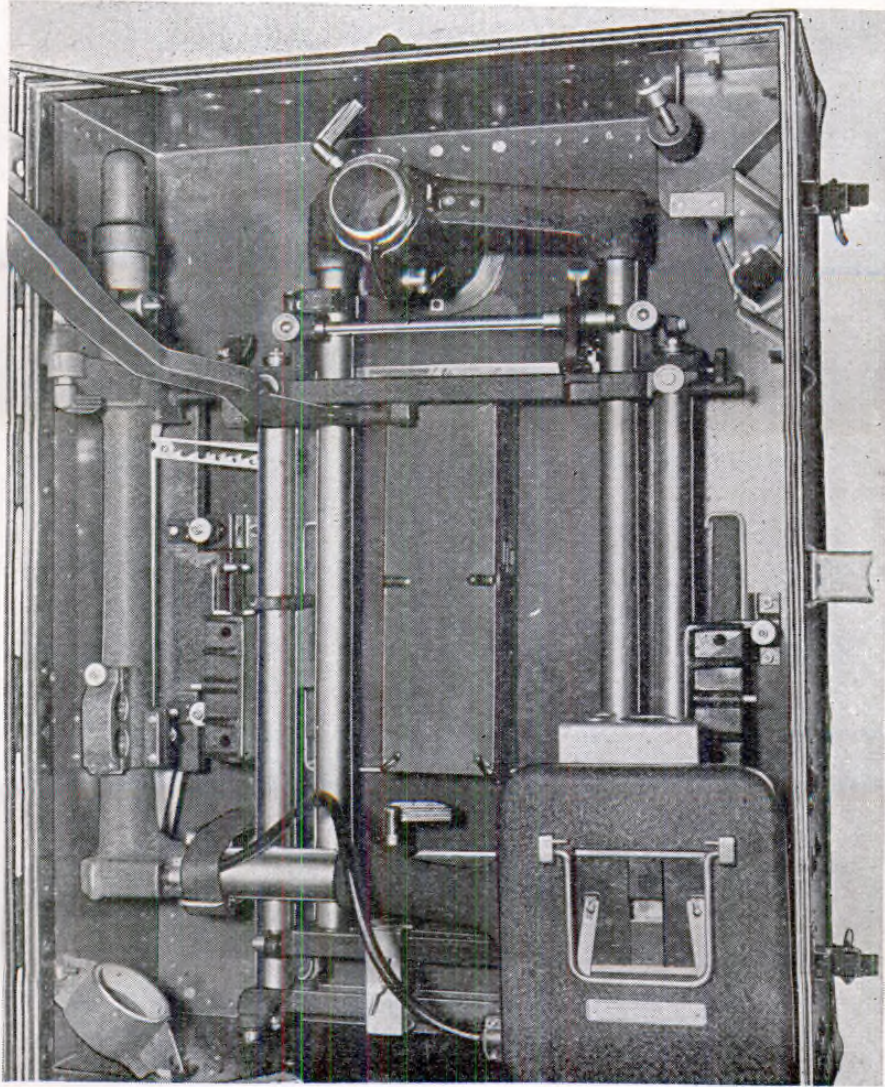

Figure 64. Large trunk, part No. 9R05767 without angulazing housing.
- n.* Replace the **L** member assembly and shutter. (See fig. 64.) Secure the assembly by means of the **L** member clamp, the saddle strap, and the shutter arm clamp.